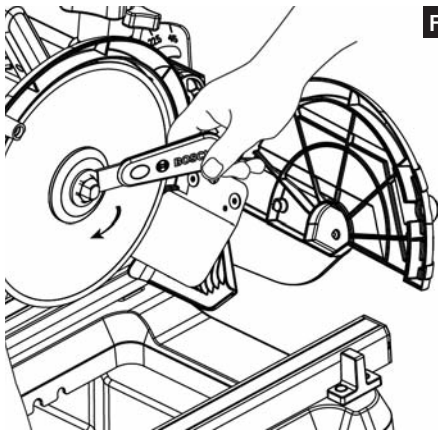

FIG. 15
5. Reinstall the outer flange and nut. Press the spindle lock with one hand and tighten the nut clockwise with the supplied wrench. Close and tighten the blade guard lock knob (Fig. 15 & 16).